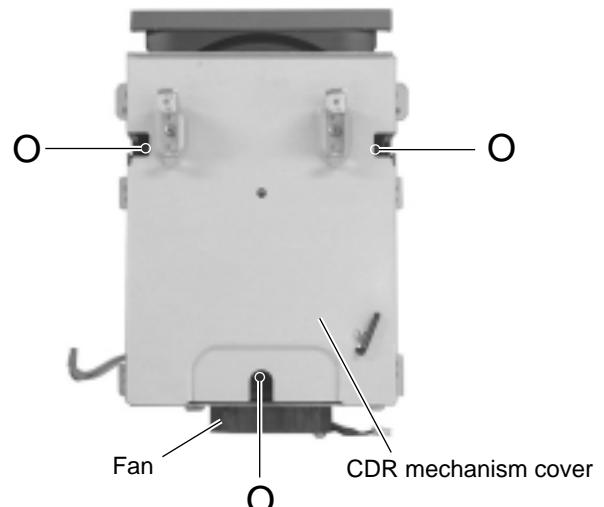

Fig.25
- Move the CDR mechanism assembly in the direction of the arrow, inside of the CDR mechanism cover, to disengage it from the three joint bosses marked **j**. Then pull out the CDR mechanism assembly toward the front (See Fig. 25 to 27).